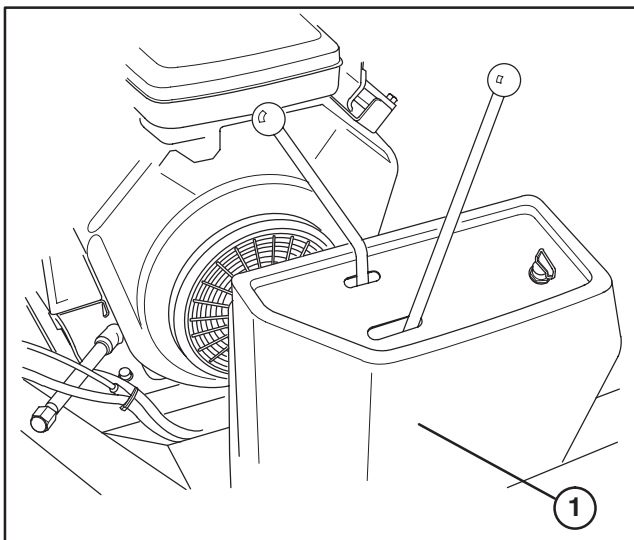

Figure 43
1. Remove control panel cover (Fig. 43).